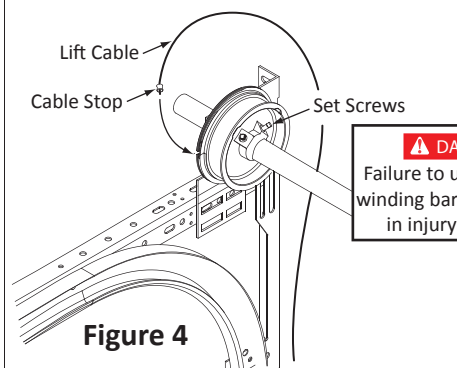

Figure 4
Bring the Left Side Lift Cable up between the door and the track, behind the Torsion Shaft and over the Left Side Drum. Slide the drum against the End Bearing Plate. Hook the Cable Stop into the notch on the outside edge of the drum (Figure 4). Turn the drum with your hand until the cable is snug. Using only your fingers, tighten the (2) Set Screws on the drum finger tight. Then, turn each screw 1/2 to 1 turn with a wrench.